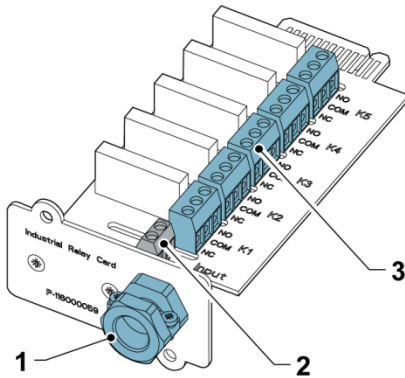

Figure 32: Relays
- You can test the relays by selecting any of the options in the test mode (see *Figure 32: Relays*).